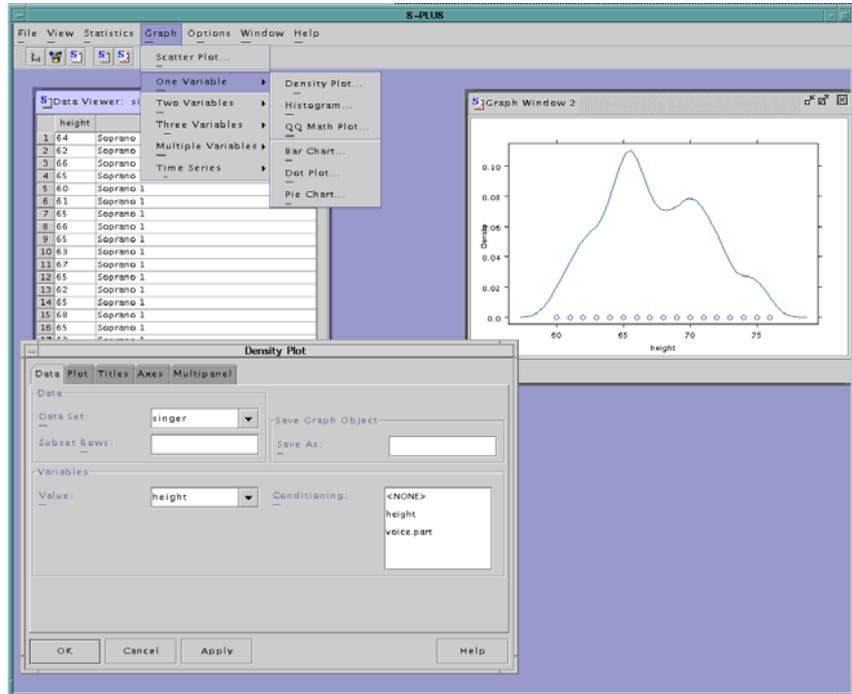

Figure 5.1: Graphics-related menus and windows.
Figure 5.1 displays many elements of the Spotfire S+ interface.
- **Graph menu:** The **Graph** menu gives you access to nearly all of the Trellis functions available in Spotfire S+. The procedures are logically grouped, with submenus that allow you to precisely specify the procedure you want to use. For example, Figure 5.1 displays the menu tree for density plots. It is selected by choosing **Graph** ► **One Variable** ► **Density Plot**.
- **Graph dialogs:** The open dialog in Figure 5.1 is entitled **Density Plot** and is used to display a density estimate for a data set.
- **Data Viewer:** The open window on the left in Figure 5.1 is a **Data** viewer, which you can use to see a data set in its entirety. The **Data** viewer is not a data editor, however, and you cannot use it to modify or create a new data set.
- **Graph Window:** A **Graph** window displays the graphics you create. Figure 5.1 shows the density estimate for a variable in a data set.